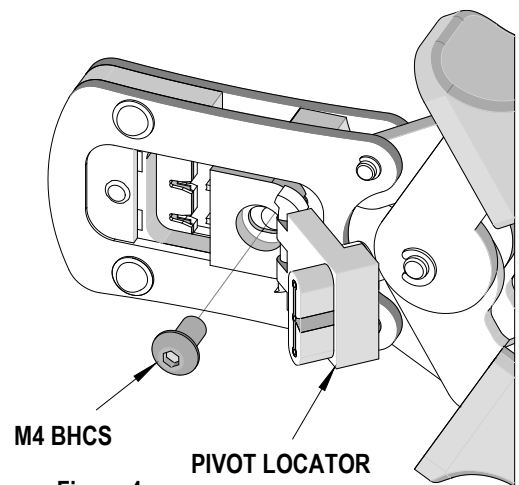

Figure 4
2. Remove the M4 BHCS. See Figure 4.
1. Place the proper locator (See Chart on page 2) on the hand tool. Install the M4 BHCS. See Figure 4.